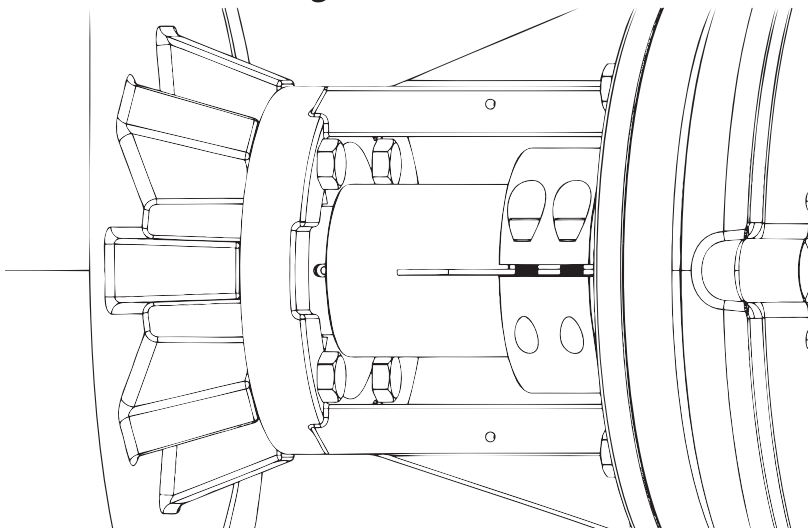

Figure 29
2. Slots in the double seal driver and rotating double seal fit over the driving pins on the stub shaft. See **figure 29.**